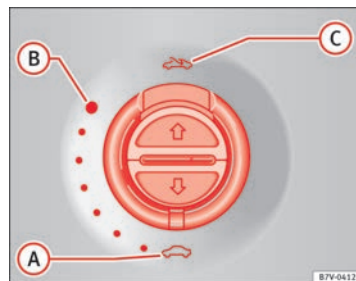

Fig. 57 On the interior roof lining: use the rotary button for opening and closing
⇒ Fig. 57
- The ⇒ Fig. 57  switch should be in the “closed” position **(A)**.